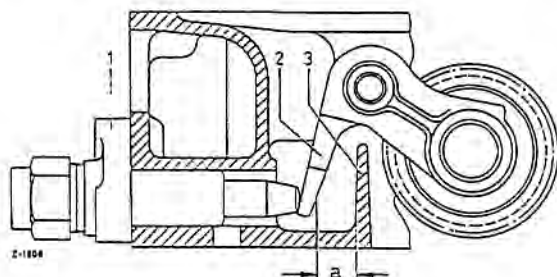

Fig. 05-20/1
As a consequence of normal wear the twin silent chain (earlier roller chain) employed in the timing gear may stretch; this not only causes rattling noises, but also changes the start of delivery by the injection pump and shifts the timing. In the event of chain noises and changed timing of the beginning of delivery in the direction of retarded timing, the available adjustment reserve "a" of the chain tensioner must therefore also be measured. This is done by inserting a 2-mm thick gage, Part No. 621 589 02 23 00, from the front between the lever (2) of the sprocket bearing and the web (3) on the cylinder head (Fig. 05-20/1). If the gage can be introduced between lever and web, i. e. if the dimension is still larger than 2 mm, chain stretch is as yet relatively small; it is then sufficient to correct the beginning of delivery. (For correction of the beginning of delivery, see Job No. 00-8).